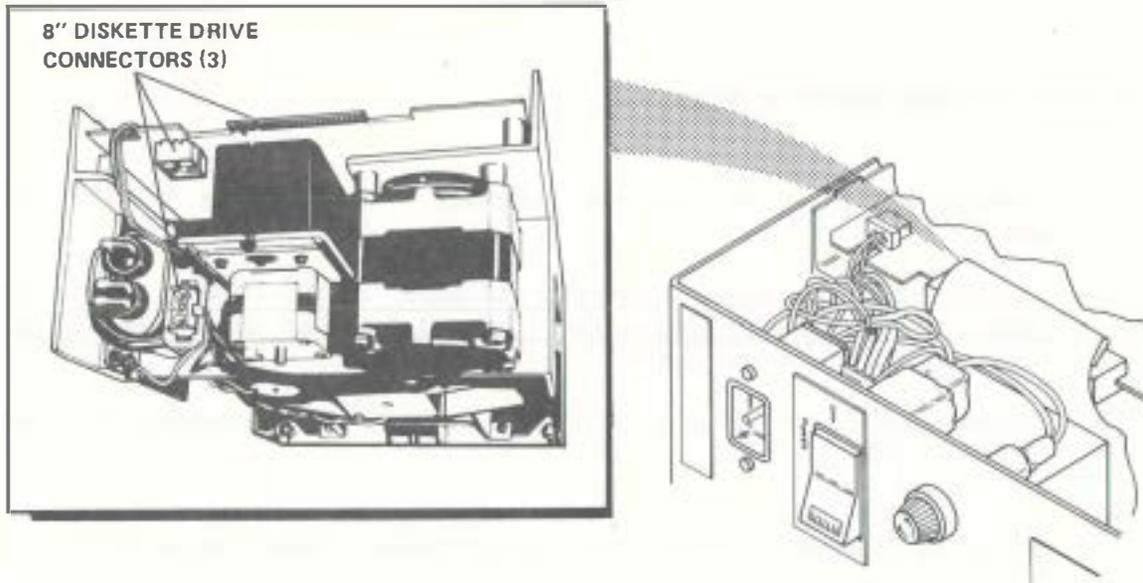

Figure 5-27. 8" Diskette Drive Connections
- Slide the diskette drive out a few inches and disconnect the three connectors on the rear of the diskette drive. See Figure 5-27.
2. Slide the diskette drive into the housing until the three rear connectors can be replaced. Replace the connectors. See Figure 5-27.